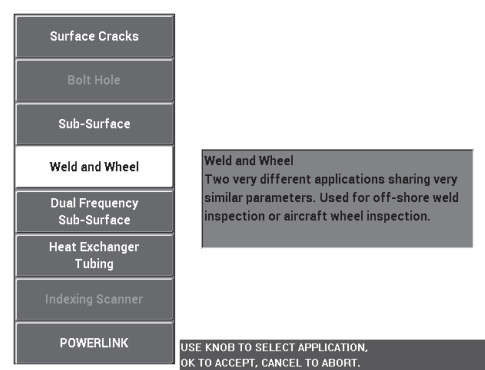

Figure 5-31 The Weld and Wheel application
2. Press the ADV SETUP menu key () once, and then select **APPL SELECT** (A key) to open the application selection menu. Select **Weld and Wheel** with the knob, and then press  to accept (see Figure 5-31 on page 148).